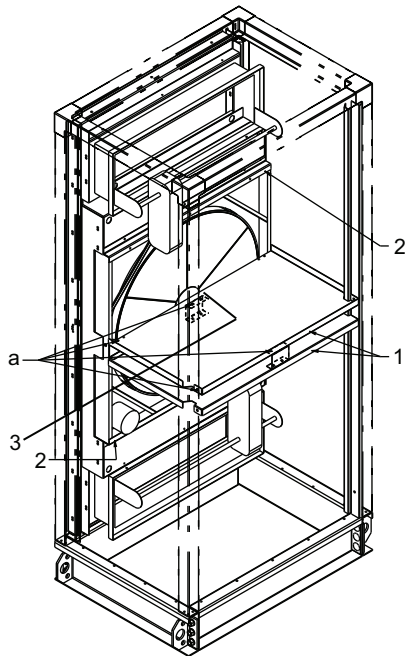
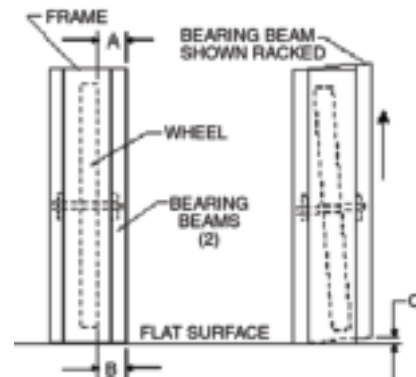
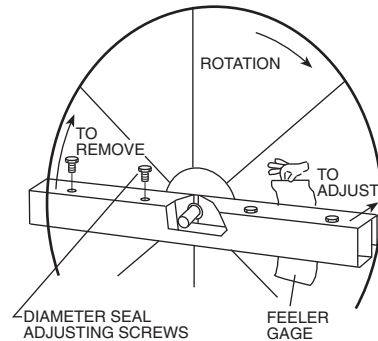

**Fig. 190 — Remove Wheel for Cleaning
Fig. 192 — Avoid Racking of Frame
Fig. 193 — Diameter Seal Adjustment
To clean wheels (size 25 and 30) use this procedure and refer to Fig. 190:
4. Refer to Fig. 190. Remove the upper and lower wheel center partition plates. This requires removing screws (a) of the upper and lower plate.
5. Remove the upper and lower (2) wheel retainer angles, being careful wheel does not tip and fall out.
6. Slide wheel cassette out of frame (toward main AHU), and out the side of the unit (3).
7. The new ERV section may be mounted in any orientation. However, make certain that the frame remains flat and the bearing beams are not racked as shown in Fig. 192.
8. To ensure that the beams are not racked, check that the distance between the wheel rim and bearing beam is the same at each end of the bearing beam, to within 1/4 of an inch (dimension A and B in Fig. 192). Bearing beam racking of as little as 0.040 inches (Dim C in Fig. 192) will cause the wheel to tilt 3/16 in. at the rim. Adjusting the diameter seals (Fig. 193) will compensate for up to 1/4 in. of racking.
9. Wheel sections installed at angles greater than 30 degrees from vertical will require seal adjustment (Fig. 193). Adjust the diameter seals to avoid excessive wheel drag. A final check of seal adjustment is recommended for all designs.
1. Loosen the diameter seal adjusting screws and back seals away from wheel surface (Fig. 193).